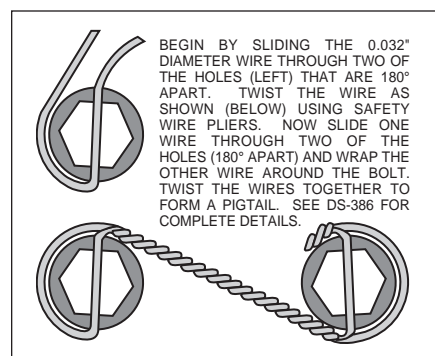

Figure 3. Safety Wire Diagram
- With the larger I.D. side of the rotor (5) facing away from the hat (6), bolt rotor (5) to hat (6) through the backside of the rotor using washers (7) and bolts (8). Using an alternating sequence, apply red *Loctite*® 271 to the threads and torque bolts to 155 in-lb. For an added measure of security, the bolts may be safety wired using standard 0.032 inch diameter stainless steel safety wire as shown in Figure 3. Please refer to Wilwood's data sheet DS-386 for complete safety wire installation instructions.